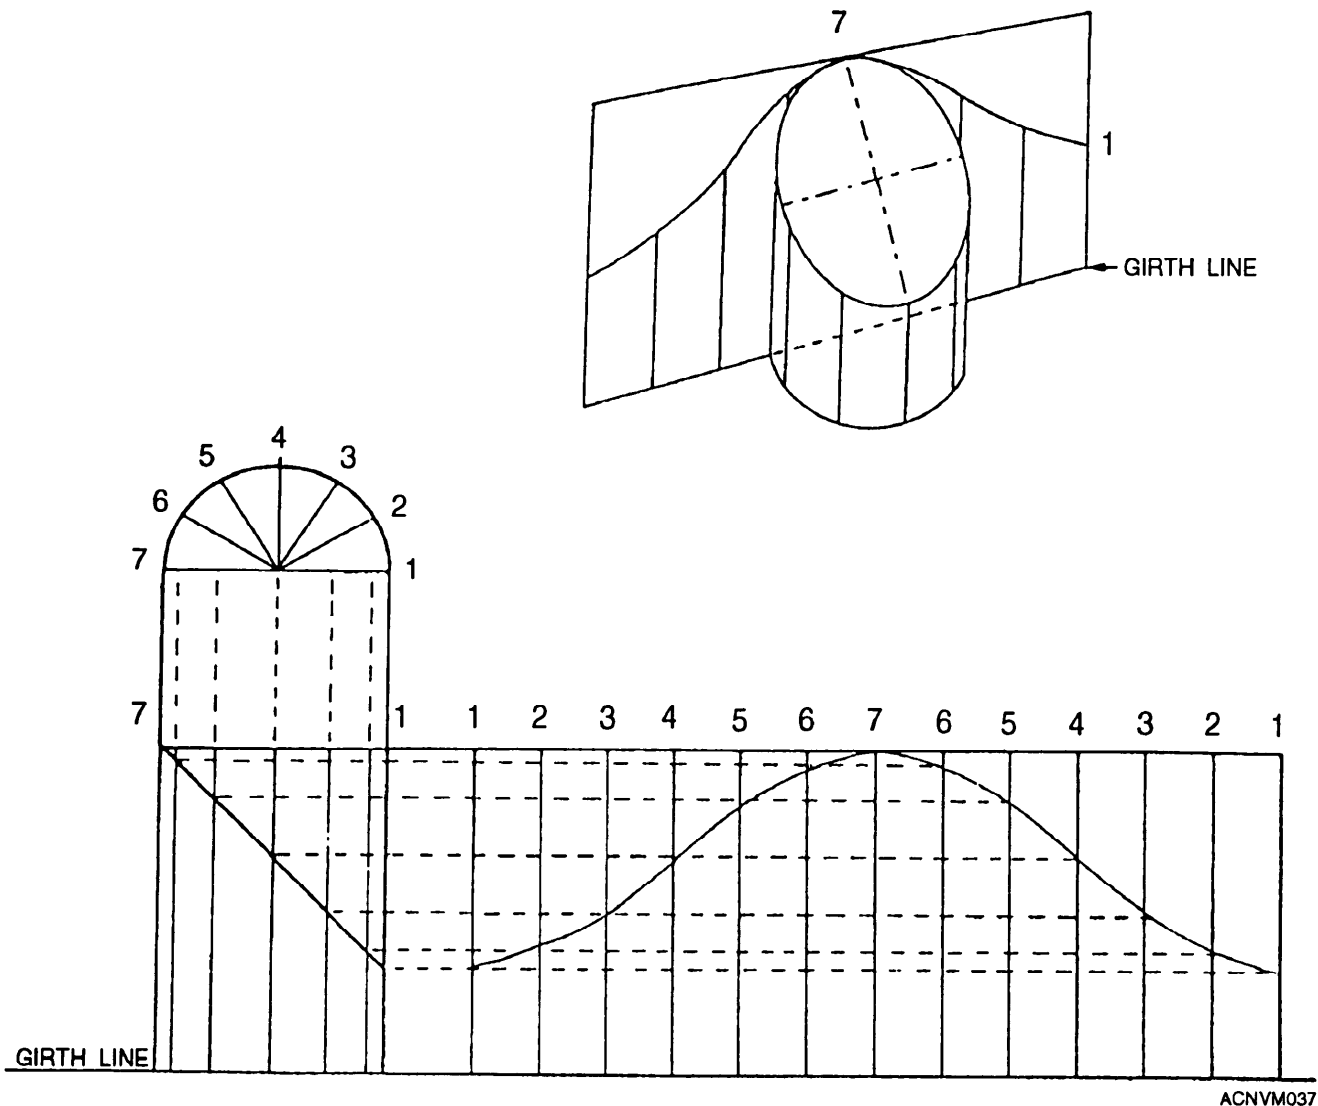

Figure 12-37.—Stretchout showing a girth line.
3. Draw a stretchout or girth line perpendicular to the parallel lines of the solid. Each space contained in the section or plan view will be placed on the stretchout lines (fig. 12-37).